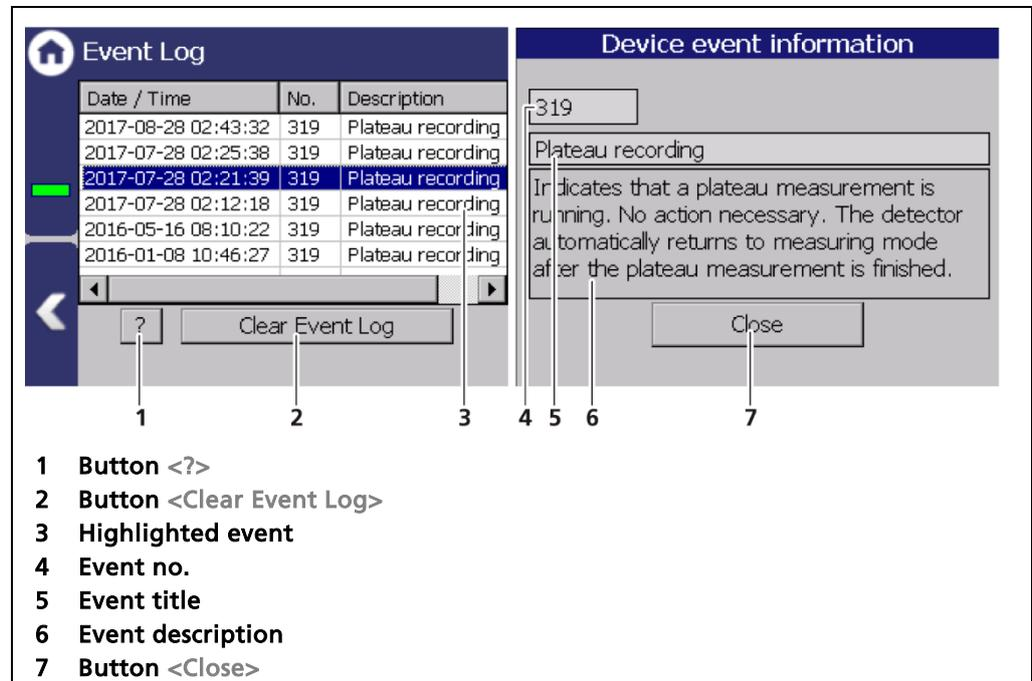

Fig. 76 Event Log
1. Click on a line in the list (Fig. 76, item 3).
2. Click on <? > (Fig. 76, item 1)
3. Close the event description (Fig. 76, item 7) with the button <Close>.
- ▶ With the button <Clear event log> (Fig. 76, item 2) all events are deleted.